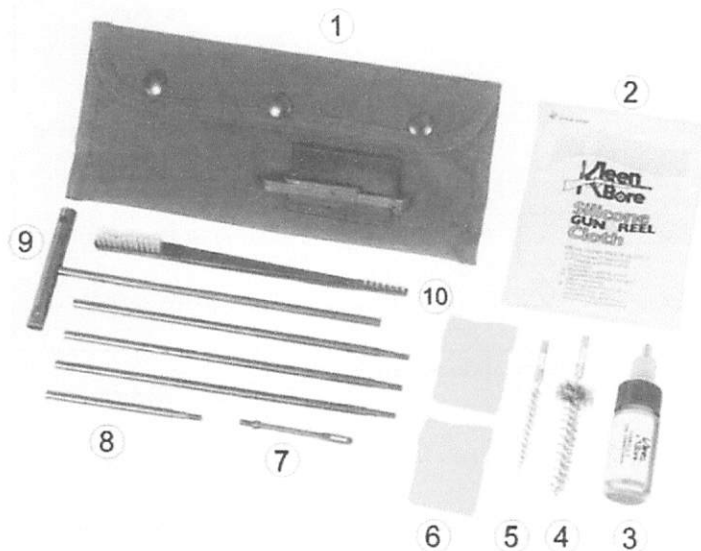

Fig. 20 Cleaning Kit
- ⇒ Pull the oil-impregnated cleaning brush (Fig. 20) with cleaning rod (Fig. 20) through the barrel from the chamber to the barrel muzzle (the first time, if possible, immediately after firing when the barrel is still warm to the touch).